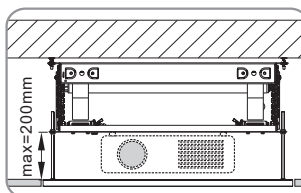

Figure22
14. Adjust the height of decorative ceiling plate depended on the actual ceiling height, and twist setscrew nut on the 200mm long screws assembled in the four corners of decorative ceiling plate. The max height is about 200mm (Figure 22). Please tightening screws to avoid looseness.